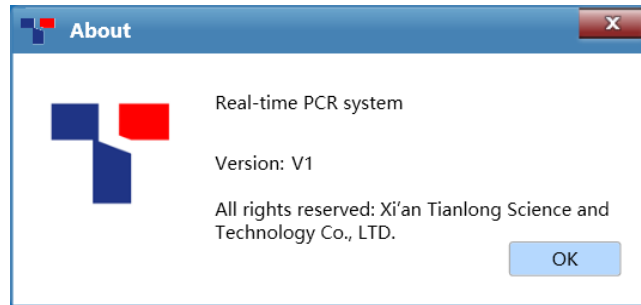

Figure D-3.8 Help submenu - About interface
3. **About**: display the application software version and copyright information, as shown in figure D-3.8.